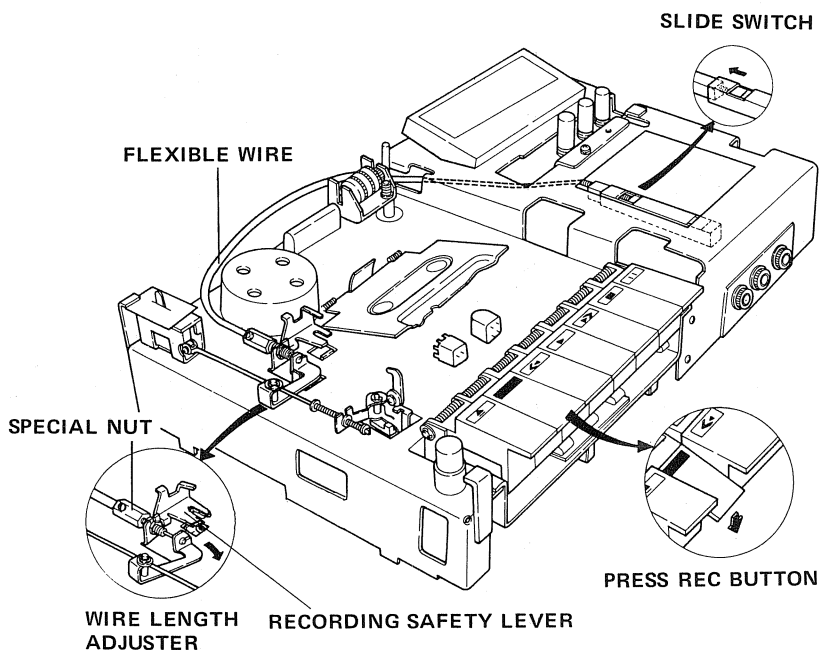

Fig. 11
2. When the REC button is locked by pushing slowly, confirm that slide switch (see Fig. 11) is pulled in direction indicated by arrow.
3. If slide switch does not function properly, wire length must be adjusted. See insert in Fig. 11. Loosen special nut, adjust wire length, then re-tighten nut.